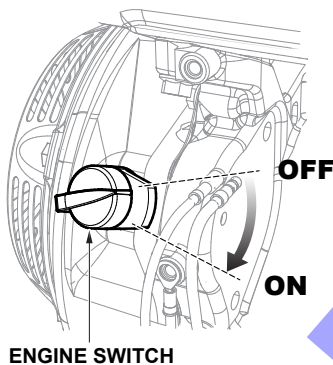

Figure 13. Engine ON/OFF Switch
2. Place the engine ON/OFF switch (Figure 13) in the **ON** position.